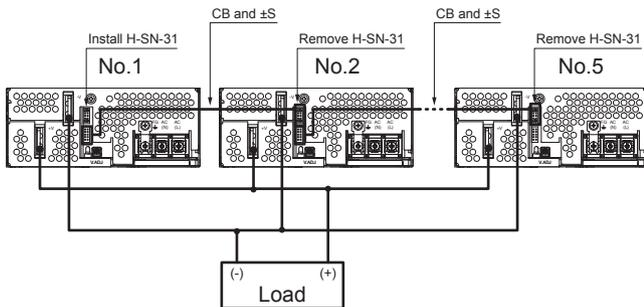

Fig.5.14 Parallel operation condition (Example of PJMA1000F,PJMA1500F)
- ① (Before wiring) set the output voltage of each unit to the desired value. The output voltage difference between the units must be less than 0.1V or 1% of the rated output voltage, whichever is smaller.
- ② Wire the power supplies as shown in Fig. 5.14. Make sure the output wires of the unit connected in parallel are of the same length and the same type.
- ③ Make sure the total output current does not exceed the value determined by the following formula: